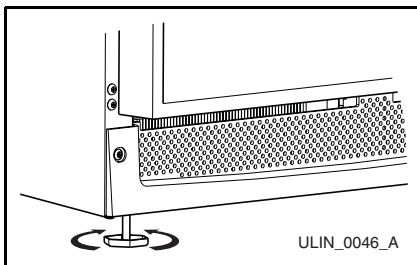

Figure 16
2. If the unit is not level, adjust the feet on the corners of the unit as necessary (**Figure 16**).